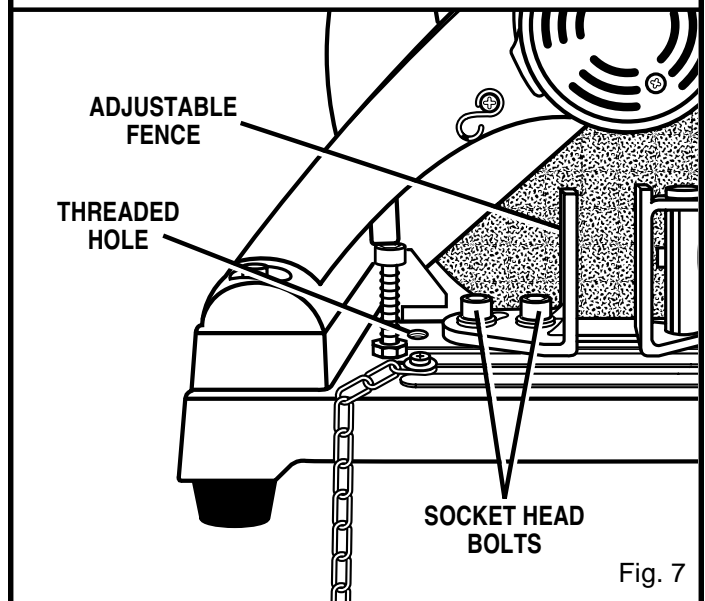

Fig. 7
- Using the 8 mm hex key supplied, loosen the two socket head bolts securing adjustable fence. See Figure 7.
See Figures 7 and 8.